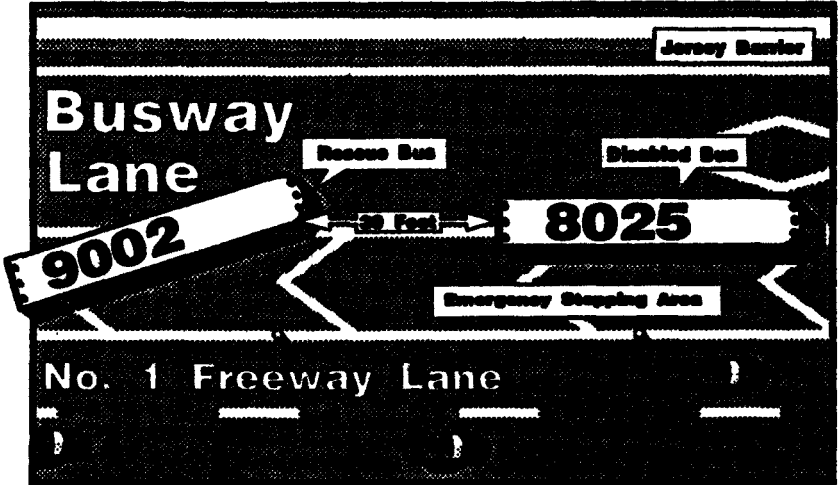

Fig 11-1
If directed to stop by a CHP officer or MTA supervisory personnel for a transfer move in either direction between the Long Beach Freeway (710) and the Gibson Tunnel, the Operator of the rescue bus must operate into the emergency stopping area from the number one (1) lane. An oblique left turn must then be made so that the bus will be stopped in an angular position thirty (30) feet behind the disabled bus. (see Fig 11-1)